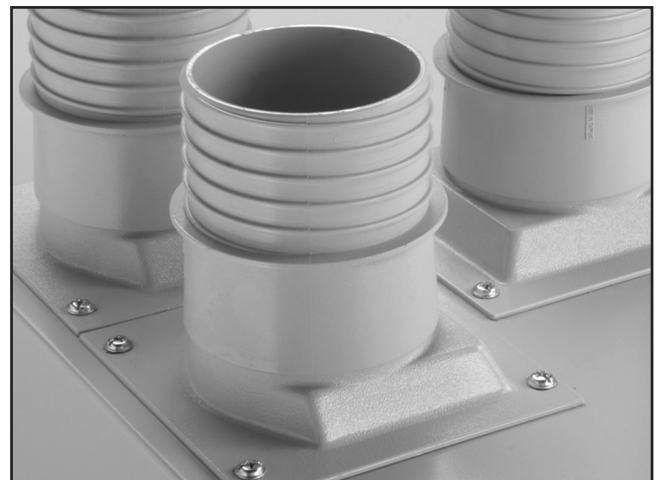

Figure 12. Example of ports installed.
1. Install the dust ports (**Figure 12**) to the mounting locations on the top of the sanding unit with the supplied M6-1 x 10 Phillips head screws.